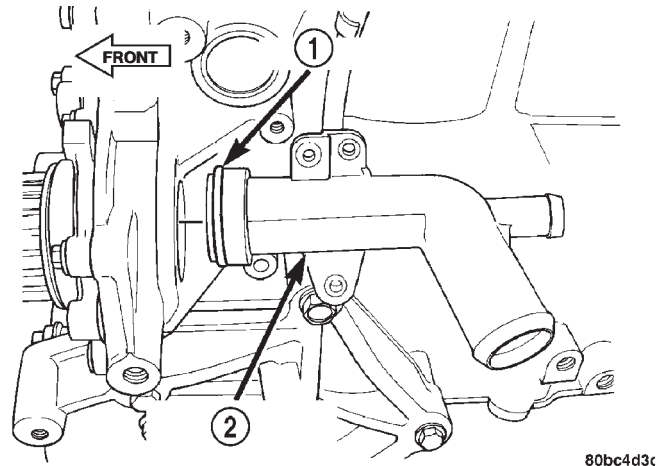

Fig. 21 Water Pump Inlet Tube
(1) Drain cooling system. Refer to procedure in this section.
(2) Remove upper radiator hose to access the hose connections at the inlet tube.
(3) Remove intake manifold. Refer to Group 9, Engine for procedure.
(4) Remove lower radiator hose and heater hose from the inlet tube.
(5) Remove lower intake manifold support bracket.
(6) Remove the inlet tube to the block fasteners.
(7) Rotate tube while removing the tube from the engine block (Fig. 21).
(1) Inspect the O-ring for damage before installing the tube into the cylinder block (Fig. 21). Replace O-ring as necessary.
(2) Lubricate O-ring with Mopar® Dielectric Grease and install inlet tube into the cylinder block opening.
(3) Install inlet tube fasteners and tighten fasteners to 12 N·m (105 in. lbs.).
(4) Install intake manifold lower support bracket fasteners and tighten to 12 N·m (105 in. lbs.).
(5) Connect lower radiator hose and heater hose to inlet tube.
(6) Install intake manifold. Refer to Group 9, Engine for procedure.
(7) Install upper radiator hose.
(8) Fill cooling system. Refer to procedure in this section.
(9) Pressure system to 104 kPa (15 psi) to check for leaks.